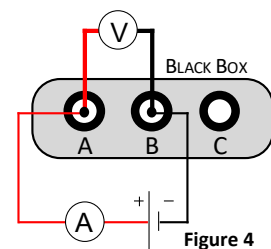

Figure 4
- e. Turn off the power supply, and remove the small bulb from the circuit. Attach the wires that were connected to the bulb to connectors **A** and **B** on the box (**Figure 4**); also attach the wires from the voltmeter to **A** and **B**. Change the ammeter setting to '20m' DCA, and the voltmeter to '200' DCV.
- f. Your circuit now has the large resistor connected in place of the bulb. Draw a new circuit diagram (not Figure 4!), using the resistor symbol from Table 1.